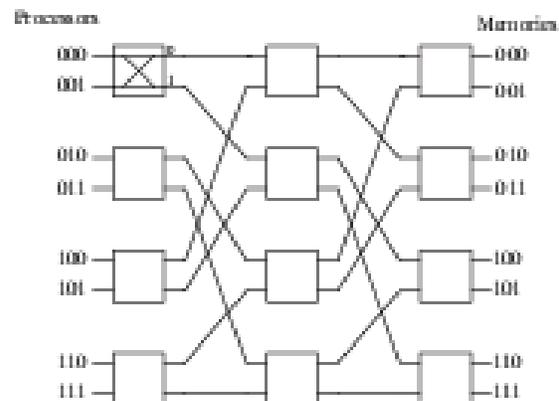

Figure 7: Omega switch
- An **Omega interconnection** uses less hardware. But this usually means that blocking3 is more likely. Here the destination address specifies the path. Refer figure 7.